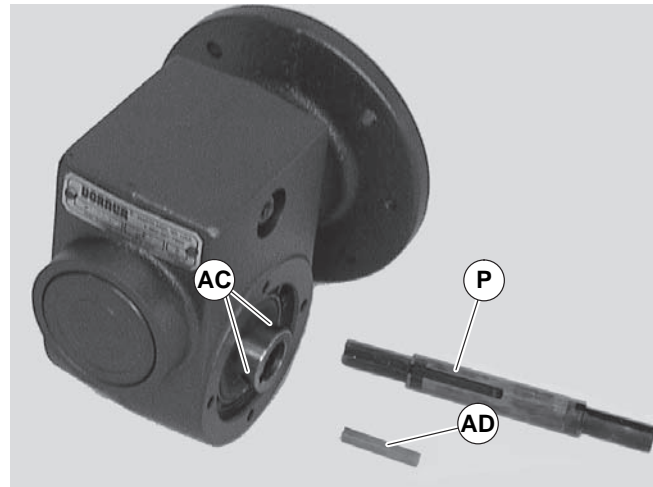

Figure 38
8. Remove gear reducer output shaft keys (I).
9. Loosen six (6) set screws (Figure 38, item AC). Remove drive shaft (P) and key (AD).
11. Replace the original shaft components into new gear reducer (see Figure 38).